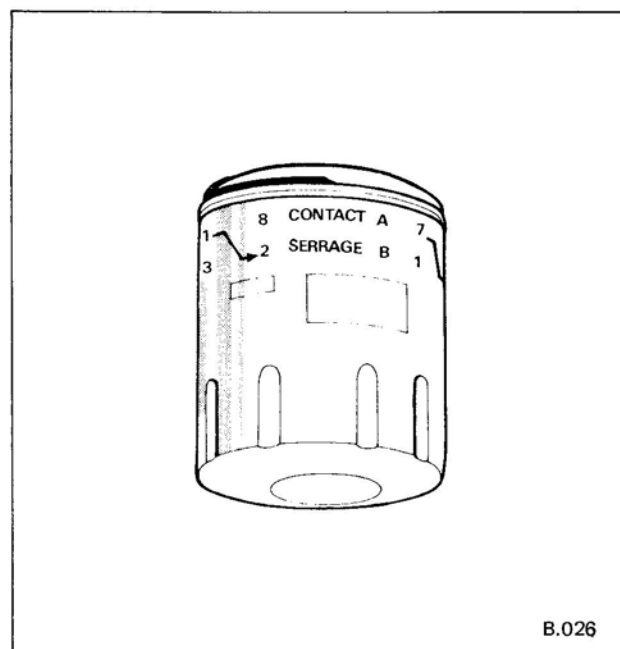

Fig. 1 Oil filter details
Take one of the figures on line (A) and tighten the cartridge up to the same figure on line (B) (this represents a movement of 3/4 of a turn or a torque of 12 to 16 N m (8.8 to 11.8 lbf ft) (fig. 1).